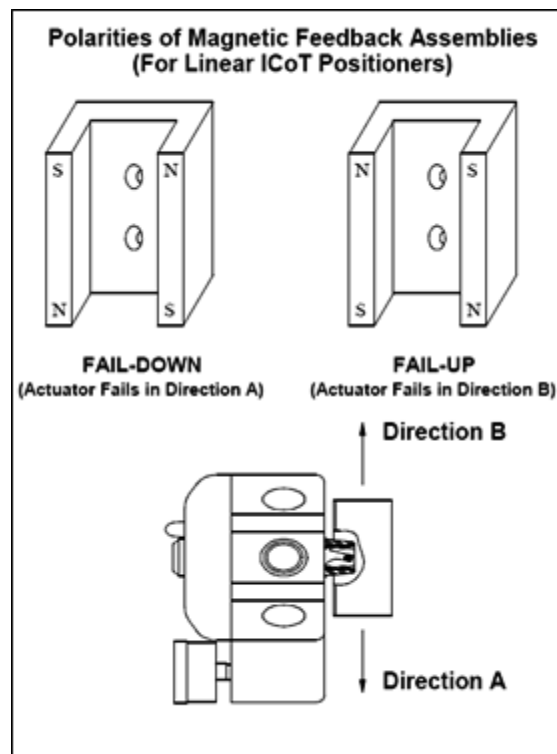
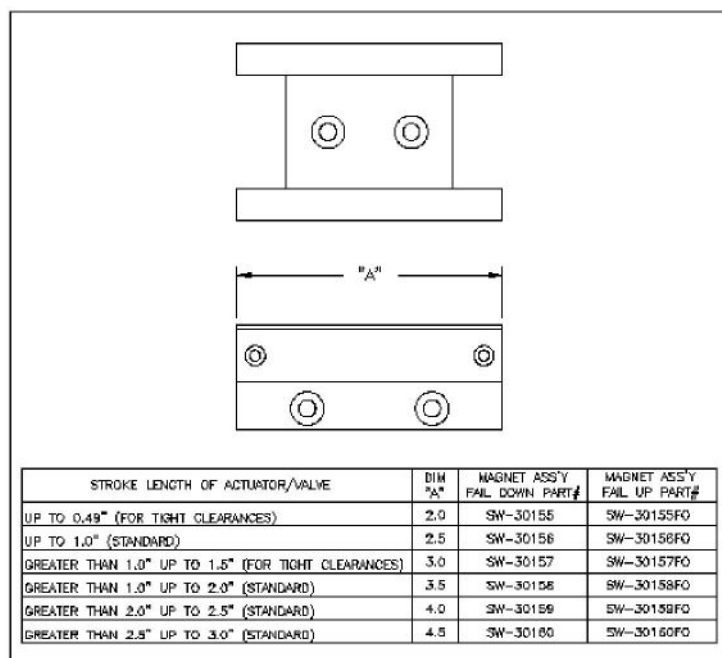

Figure 6-1
Figure 6-2
Linear Positioner: The magnetic assembly supplied with the positioner should correspond to the stroke length and failure direction of the actuator. To make sure you have the appropriate magnet assembly, check the part. The stroke length and failure direction should be printed on the part. On the older ICoT the magnet assembly is not printed with this information, although there should be a serial number. Contact the factory with the serial number to verify that it is correctly matched to the actuator. (See Figure 6-1 & Figure 6-2).
- In the case of a linear application, the feedback magnet assembly needs to be ordered specific to the stroke of the actuator and the fail direction of the actuator (See figure 6-1 & 6-2). Also, please check if the magnet center is close to the actual 50% position of the actuator stroke. If not try to align the center of the magnet to the mid-stroke point of the actuator' stem.